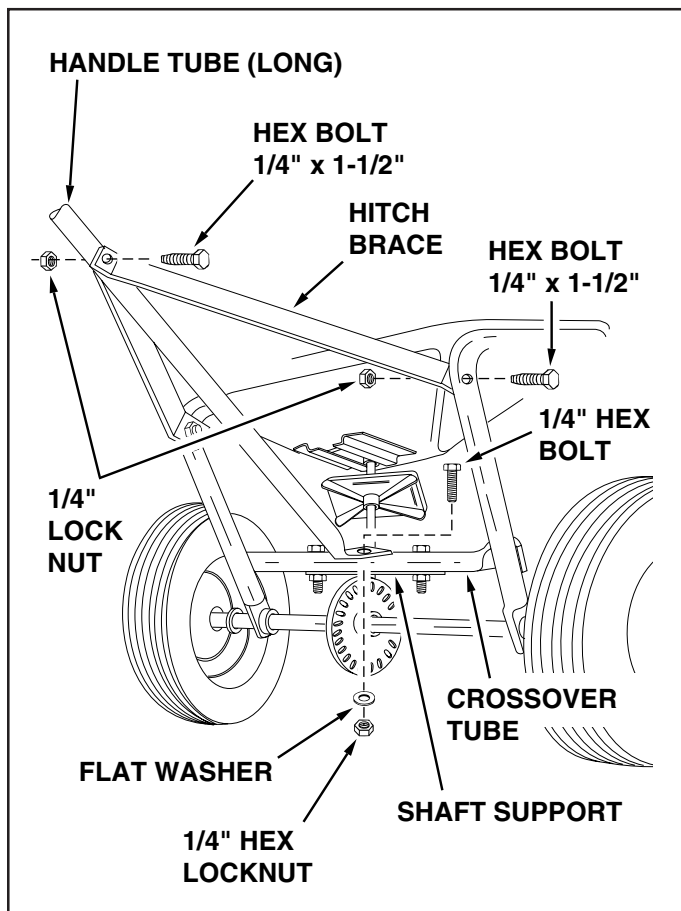

FIGURE 7
10. Assemble two handle braces to the inside of the hopper frame, one each side, using two 1/4" x 1-1/2" hex bolts and two 1/4" lock nuts. See figure 7. **DO NOT TIGHTEN AT THIS TIME.**
11. Align the holes in the ends of the two handle braces with the hole nearest the middle of the handle tube assembly. Secure with a 1/4" x 1-1/2" hex bolt and 1/4" lock nut. See figure 7.
12. Tighten all hex lock nuts and bolts, following same sequence as assembled in the previous three steps. See figure 7.